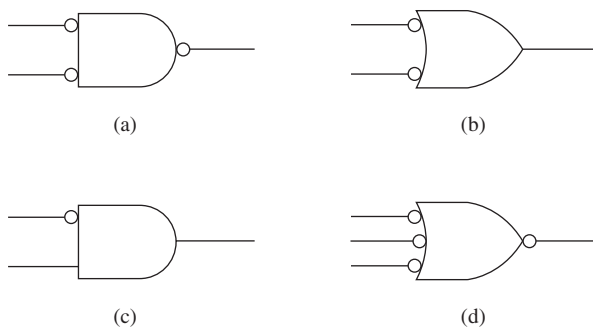

Figure P29
29. Use the bubble-pushing technique to convert the gates in Figure P29.